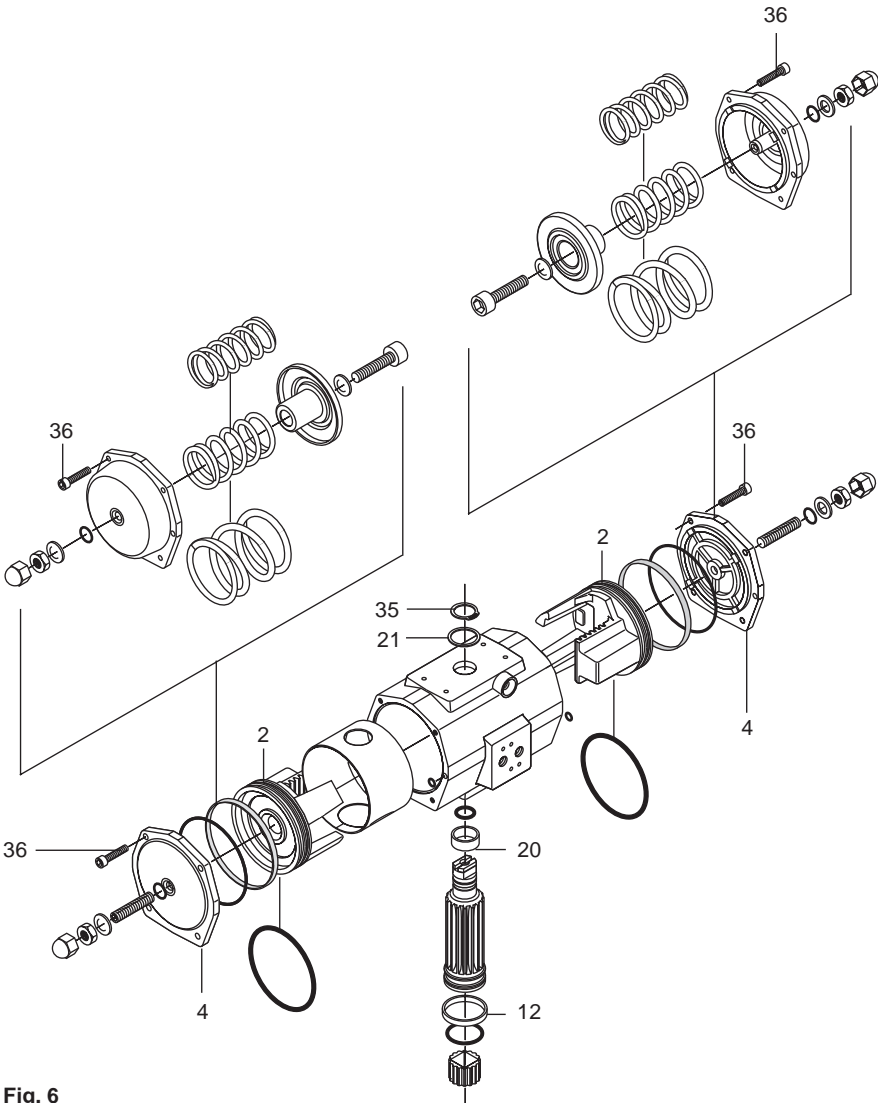

Fig. 6
3. Remove the actuator bracket (and switchbox if fitted) from the actuator to begin repair (note mounting position of bracket and positioner for easy reassembly). See fig 6.
5. Remove all screws (36) from both end caps. After the screws are removed gently prise off each end cap being careful not to damage the end cap 'O' rings.